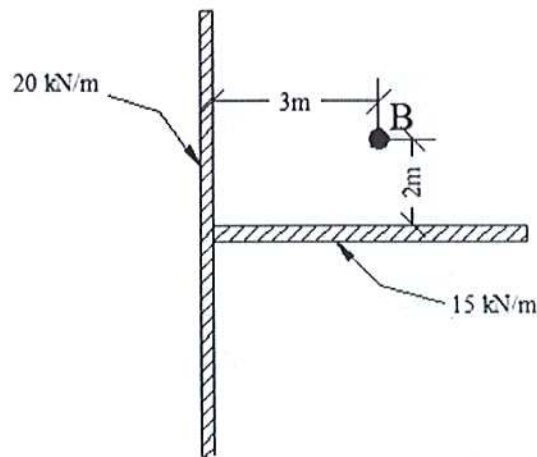

Fig. 3
- b) Calculate the magnitude of vertical pressure ( $\text{kN/m}^2$ ) at point "B" which is 6.0 m below the ground level due to the two orthogonal continuous wall shown in Fig.3.